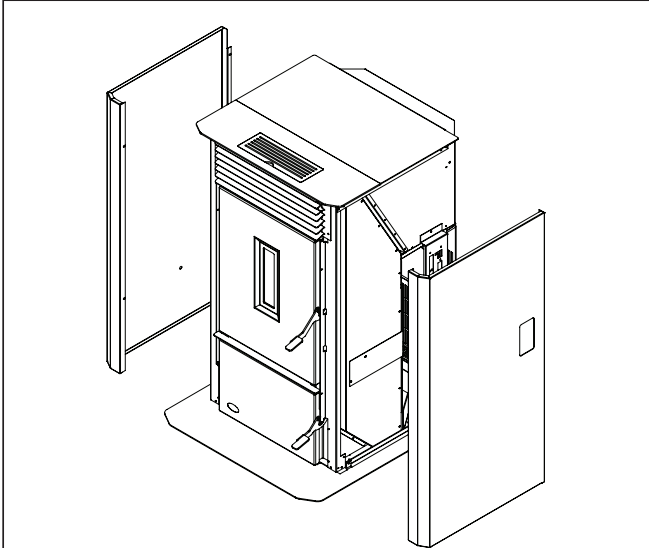

Figure 3: Cabinet sides removal.
3. After loosening the screws holding on the cabinet sides, slide the sides toward front of stove to remove, figure 3.